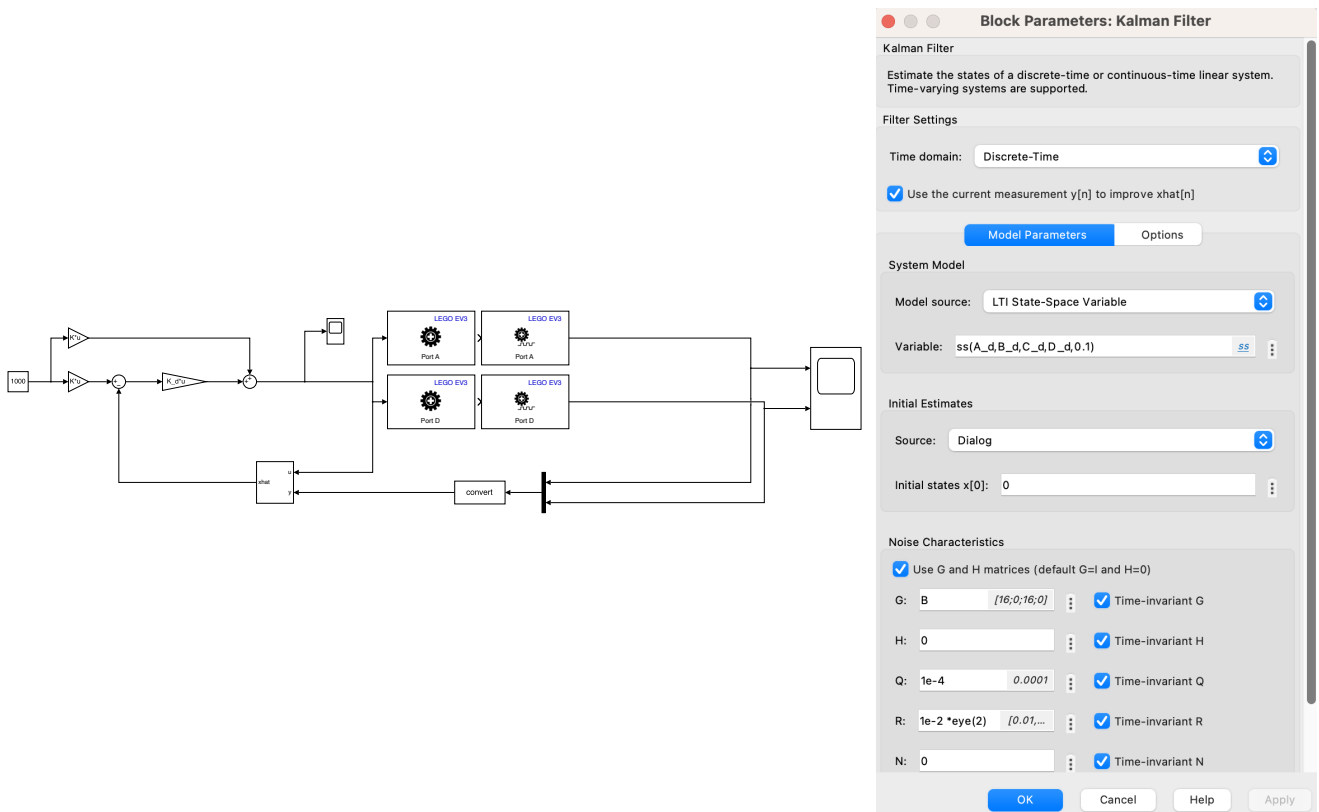

Figure 5: LQG Control.
2. Starting from the previous simulink model, build another model as the one Fig. 5. Note the convert block and the discrete-time Kalman filter. Also note that the LQR gains are now the discrete-time versions. The setpoint is 1000 degrees.